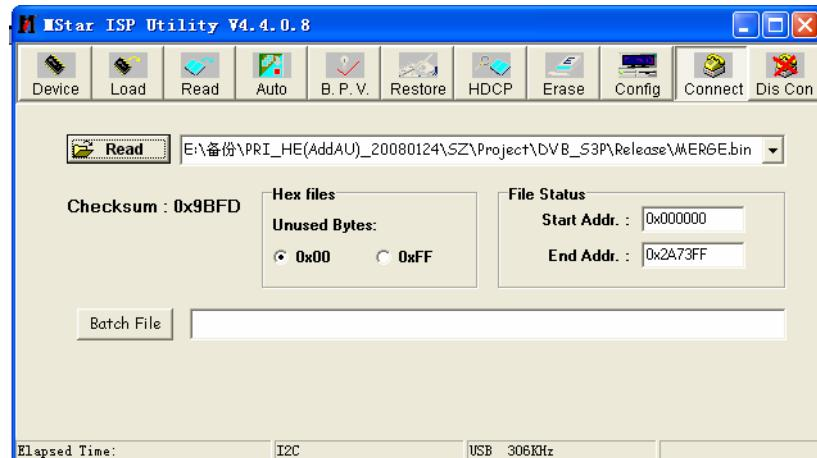

Fig. 4 Burning file
- 4) Press key “Read”, select burning file (for example **MERGE.bin**) as **Fig. 4**.
- 6) Press key “Run” as **Fig. 4** to begin burning software, there are two steps for the process: **Erase** and **Program**